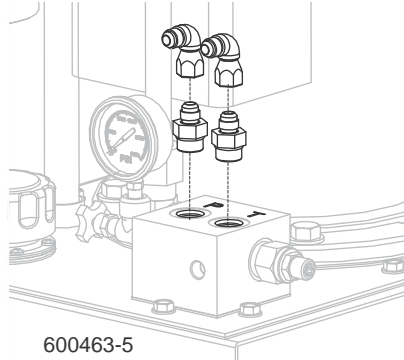

FIGURE 5
18. Assemble the provided fittings as shown in figure 5. Connect the hoses to the auxiliary hydraulic power unit.
See Figure 5.